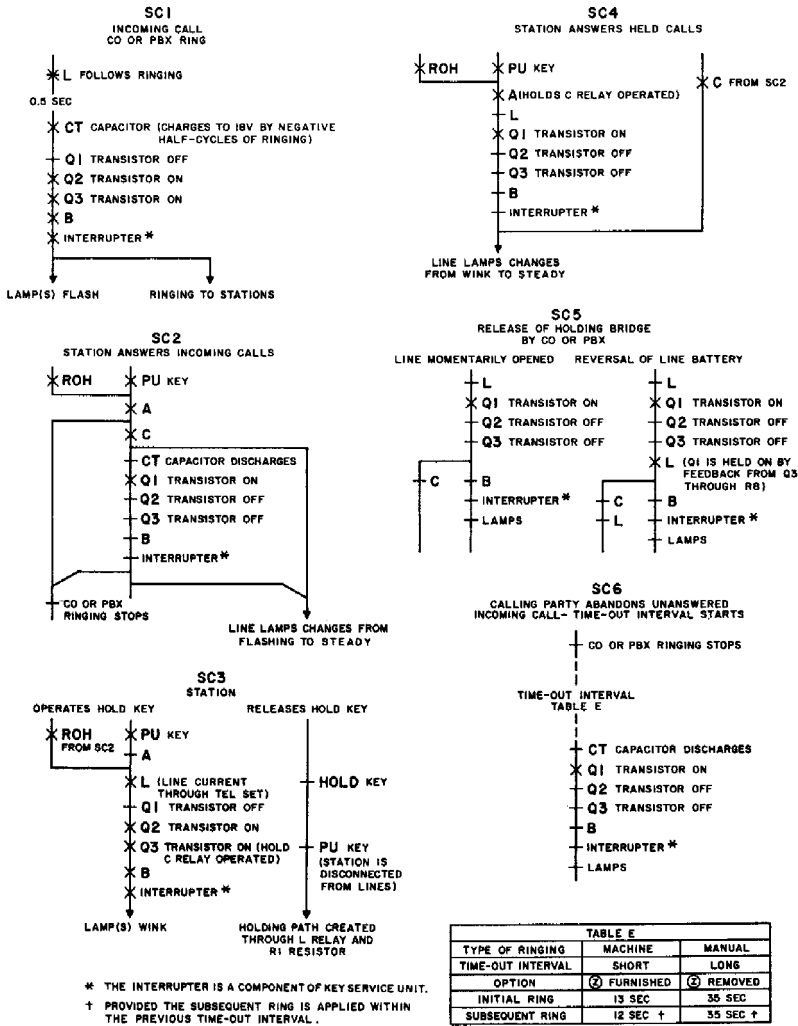

FIGURE 3. Sequence Charts (SC1 to SC6) Showing Operational Sequence of 400D KTU
- 5.03 Operational sequence charts and a functional schematic drawing are shown in Figures 3 and 4. *During periods when the local DC supply is inoperative, outgoing calls may be originated at any time. Incoming calls to the 400D operate connected line ringers in the usual manner, although common audible signals and all visual signals are inoperative.*